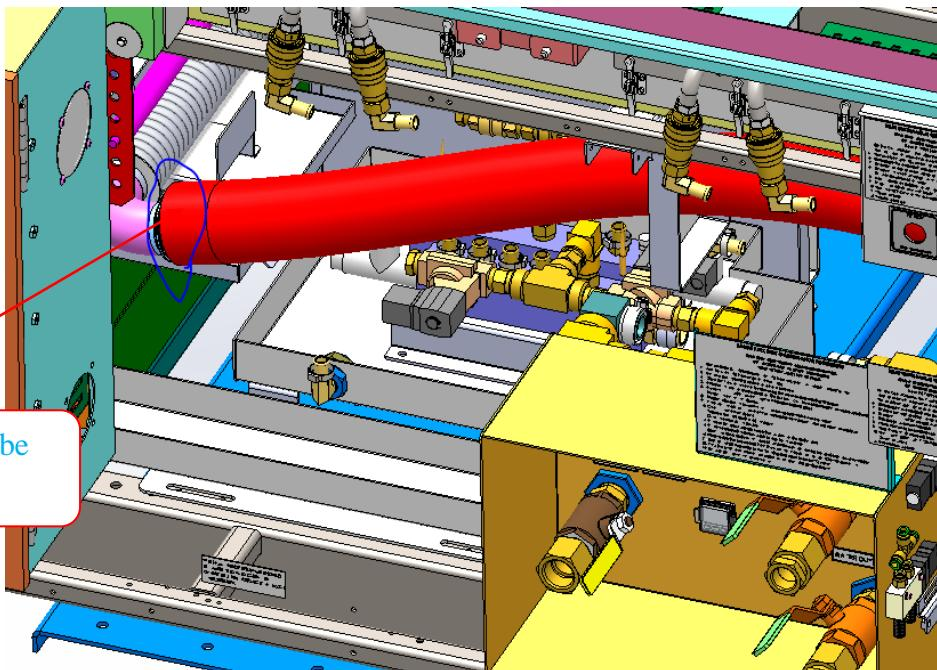

Fig 5
5. Loosen below exhaust tube connector, Retain clamp. Set aside for reinstallation. (see Fig 5)